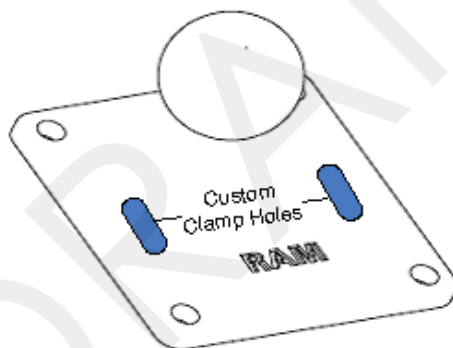

Figure 2.6. Surface (wall/beam/pole) mounting ball plate (square)
- Surface mounting ball plate (square, refer to Figure 2.6)